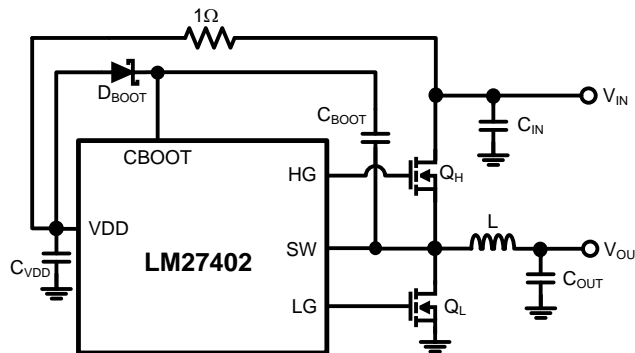

Figure 40. Tie V_{DD} to V_{IN} when V_{IN} ≤ 5.5V
I_{D_{BOOT}} is the average current through the D_{BOOT} diode, f_{SW} (Hz) is the switching frequency and Q_{GHS} (C) is the gate charge of the high-side MOSFET. If the input voltage is below 5.5V, it is recommended to connect VDD to the input supply of the LM27402 through a 1Ω resistor shown in Figure 40. This will increase the gate voltage of both the low-side and high-side FETs.